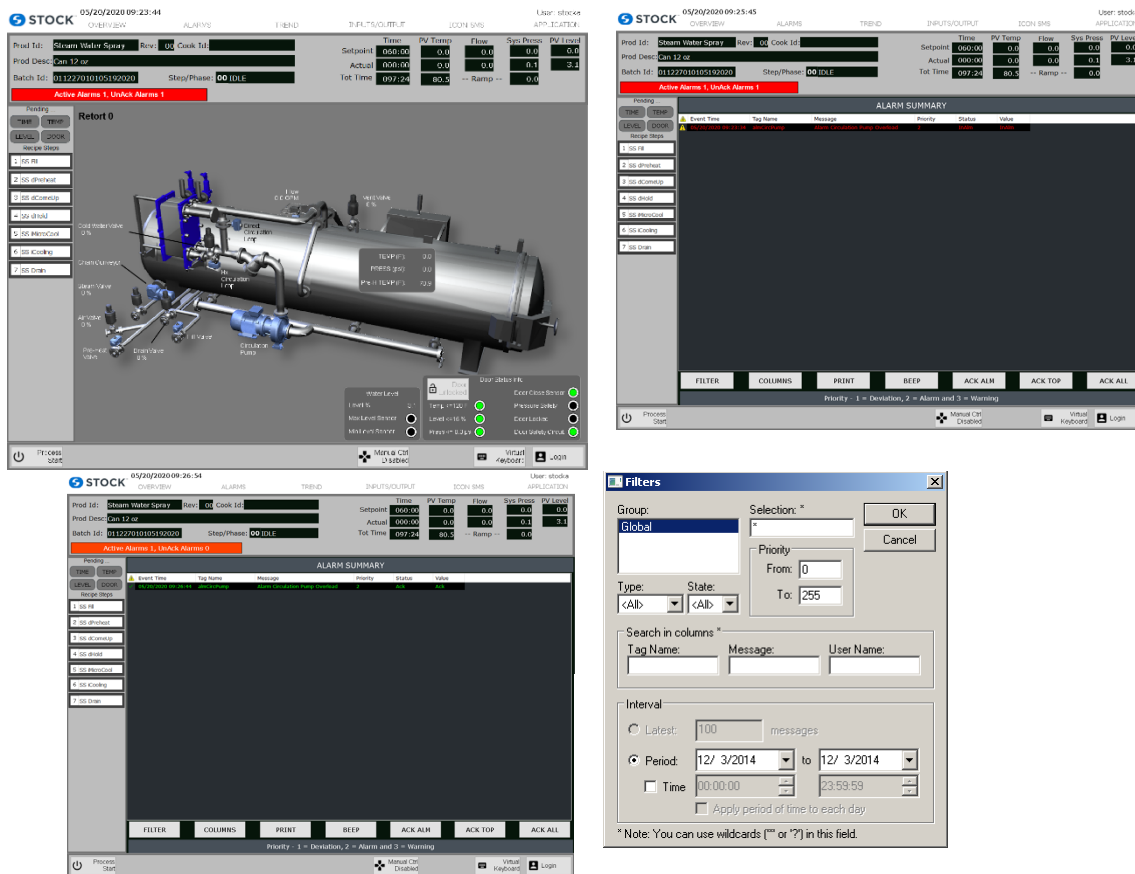

Figure 5 – Alarm Summary
The alarm menu allows you to select between the alarm summary, indicating the status of any active system alarms and the alarm history displays the alarm history (See Figure 5). Alarms can be acknowledged, Filtered and Printed. When Alarms are unacknowledged, the system displays a red banner which indicates the quantity of active unacknowledged Alarms. Active Alarms that are acknowledged are displayed in an orange banner. Three (3) priority levels: Priority 1 includes deviations, Priority 2 includes alarms, and priority 3 include warnings. The following Alarms are configured on the HMI.